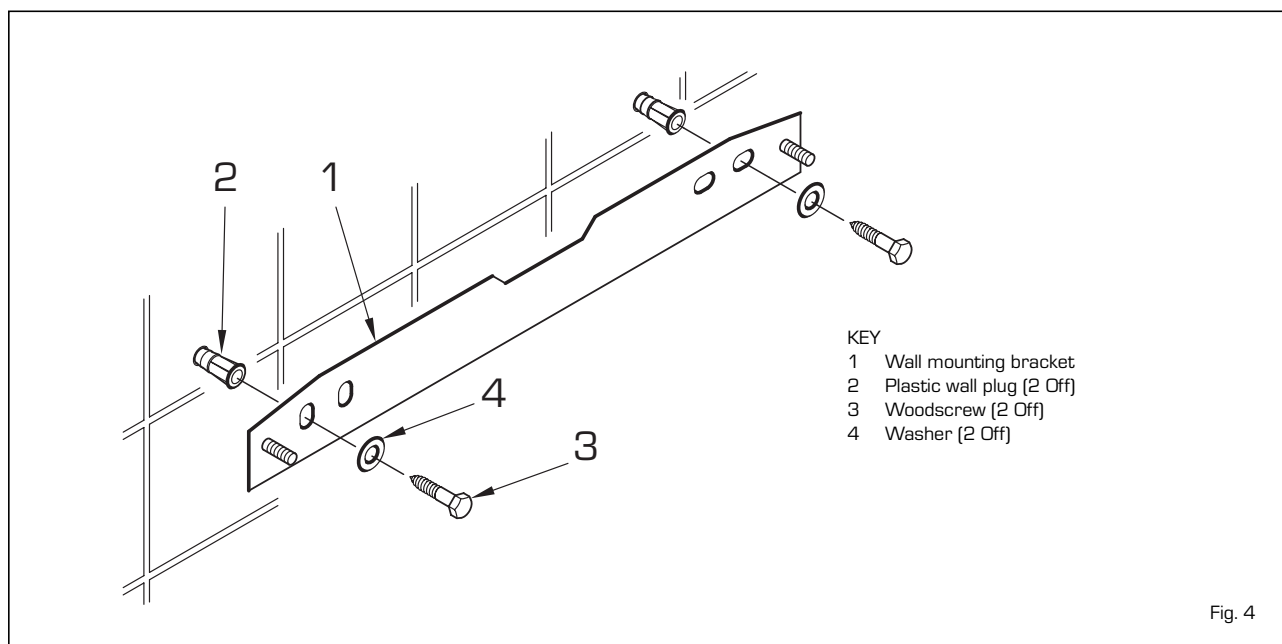

Fig. 4
2.2 FIXING THE WALL MOUNTING BRACKET (fig. 4)
- Secure the wall mounting bracket in position using the screws provided. Ensure that it is the correct way up, as indicated in fig. 4.